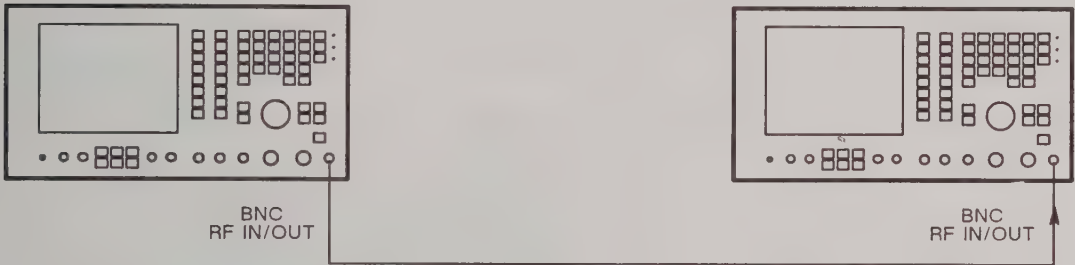

Fig. 6-20 Test equipment connections for sequential tones
- (1) Connect the RF IN/OUT BNC socket of the 2955A test instrument to the RF IN/OUT BNC socket of the 2955A under test. See Fig. 6-20.
- (2) On the 2955A under test, set the MODE to RECEIVER TEST, GEN FREQ to 100 MHz, LEVEL to 0 dBm, MOD to OFF and RF IN/OUT socket to BNC. Press the TONES, SEQUENTIAL and CCIR keys.
- (3) On the 2955A test instrument, set the MODE to TRANSMITTER TEST and RF IN/OUT socket to BNC. Press the TONES, SEQUENTIAL and CCIR keys.
- (4) On the 2955A under test, enter tone numbers 1 to 10 using the data keys. Press the TONE BURST key.
- (5) On the 2955A test instrument, check that the tones 1 to 10 appear with zero error.
- (6) Repeat (2) to (5) with the 2955A under test and the 2955A test instrument transposed.